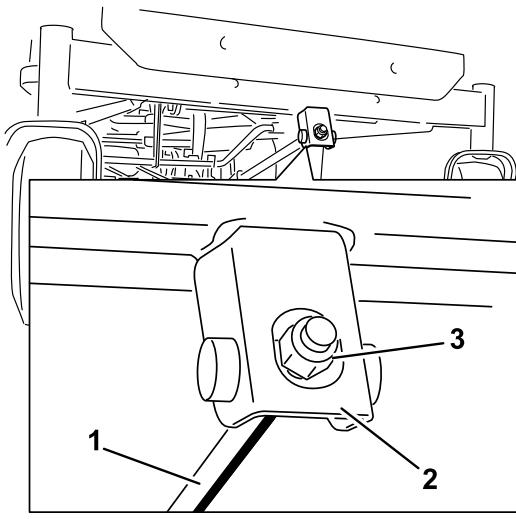

Figure 67
6. To adjust the front-to-rear blade slope, rotate the adjustment nut in the front of the mower (Figure 67).